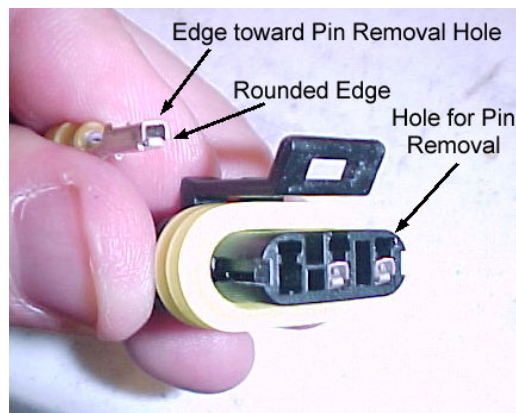

Figure 5
2. Install the terminals, with wires, into the appropriate hole from the back of the connector, paying careful attention to the orientation of the terminal with respect to the orientation of the connector (Figure 5).